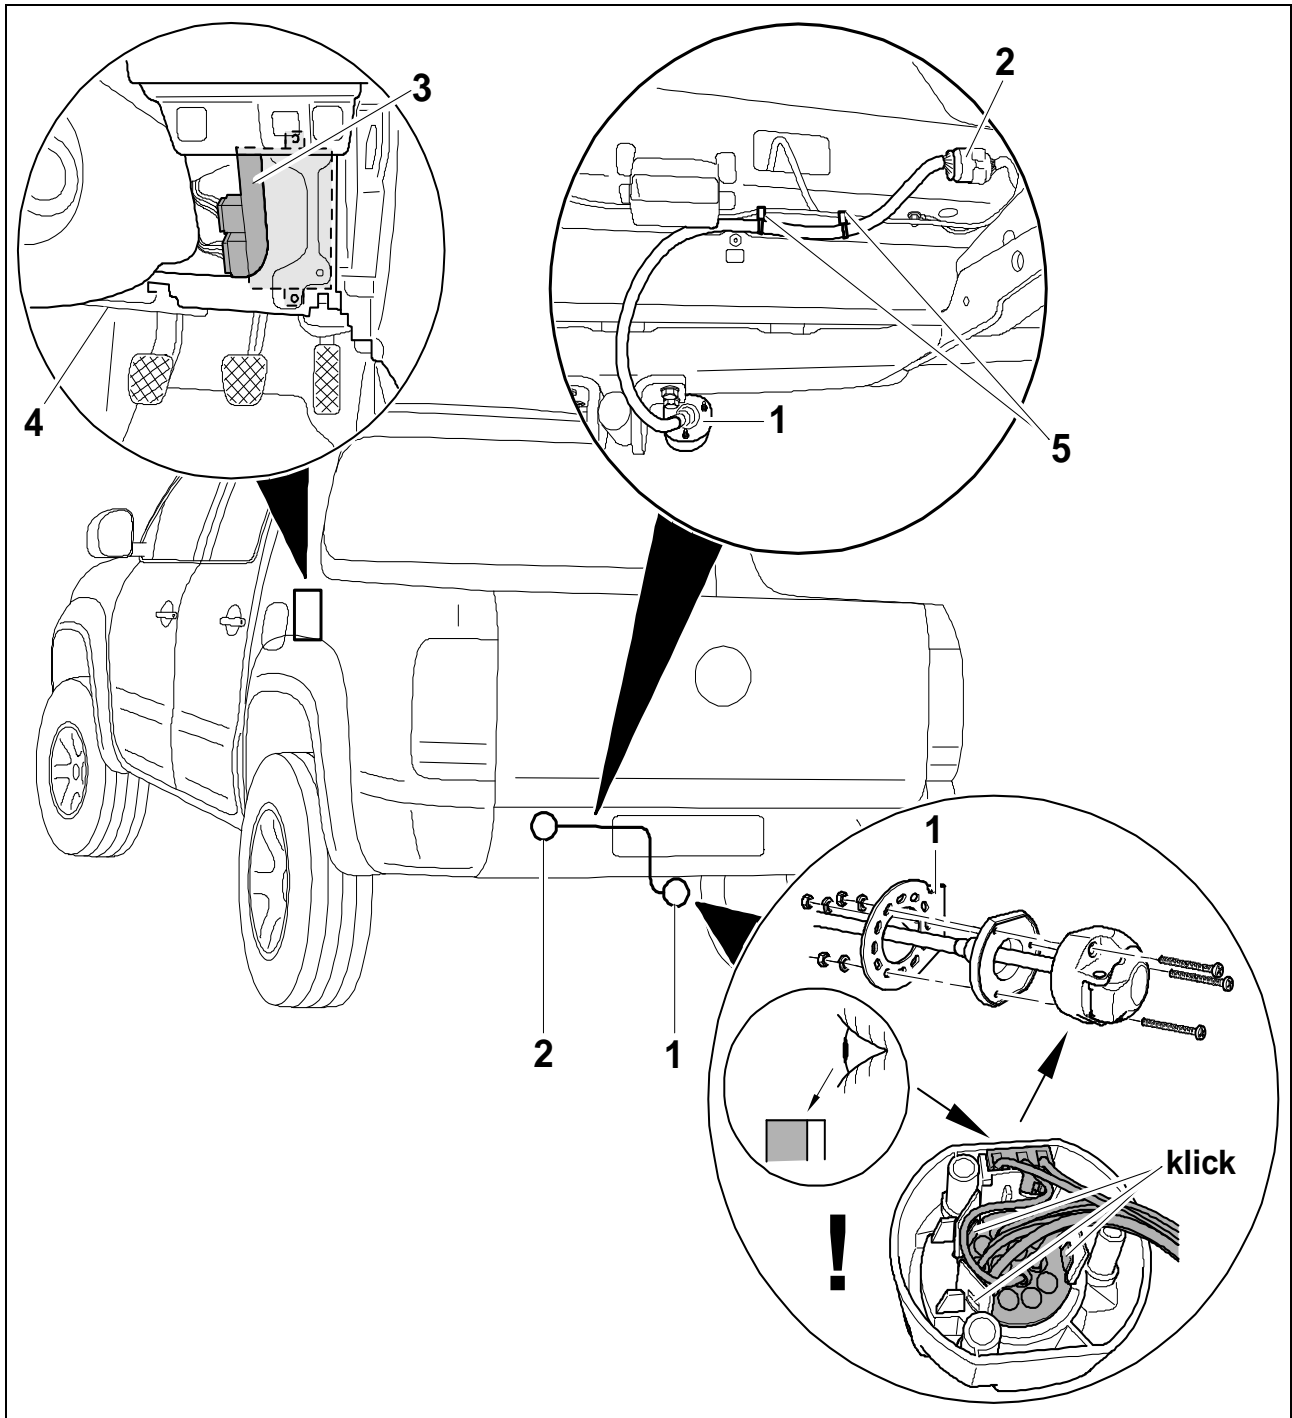

Fig. 1: Installation overview
3. Mount the trailer connection unit at the intended location with the screws and nuts provided, torque setting: max. 2.0 Nm (Fig. 1/3).
4. Connect the vehicle-side 12- and 16-pole connector (above the throttle in the foam on the vehicle-side wiring harness) to the trailer connection unit and click together (Fig. 1/3).
5. Feed the 7-pole contact holder and mikroswitch-housing through the hole in the tow coupling cross tube or the socket mounting (Fig. 1/1).
8. Screw the socket to the cross tube or socket mounting (Fig. 1/1) using the screws supplied, torque setting: max. 2.0 Nm.
9. Lay the end of the cable with the 14-pole socket to the coupling/mating connector at the coupling point (Fig. 1/2) at the rear of the cargo bed.
11. The cable ties with which the cable leading to the number plate light is fixed to the tucker bolts must be removed (Fig. 1/5).
12. Using the cable ties (with base) supplied, connect the wiring harness as well as the cable leading to the number plate light and secure to the tucker bolts with the base. (Fig. 1/5).
13. Insert 5 A fuses provided into fuse positions 60 and 61 (Fig. 1/4).